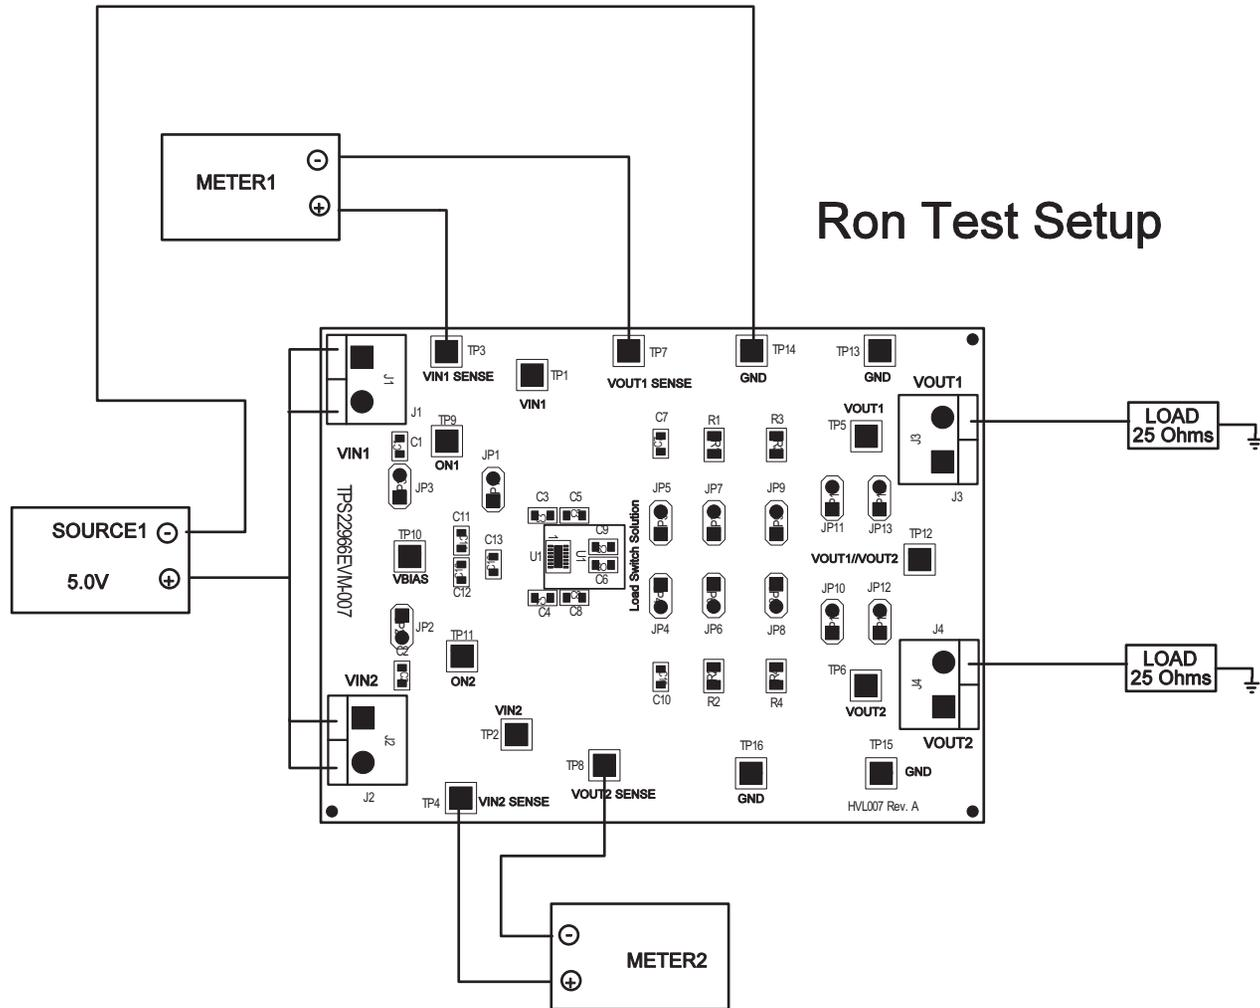

Figure 5. TPS22968EVM-007 Recommended Ron Test Set Up
Figure 5 shows a typical setup for the  $R_{ON}$  test of the EVM. VBIAS voltage must be present for the device to function, keep this voltage level constant between 2.5V-5.25V. Adding a shunt across JP1 will connect the VBIAS pin to VIN1. When testing with VIN1 below 2.5V JP1 shunt must be removed and VBIAS tied to another voltage source.
1. Setup the EVM per Figure 5.